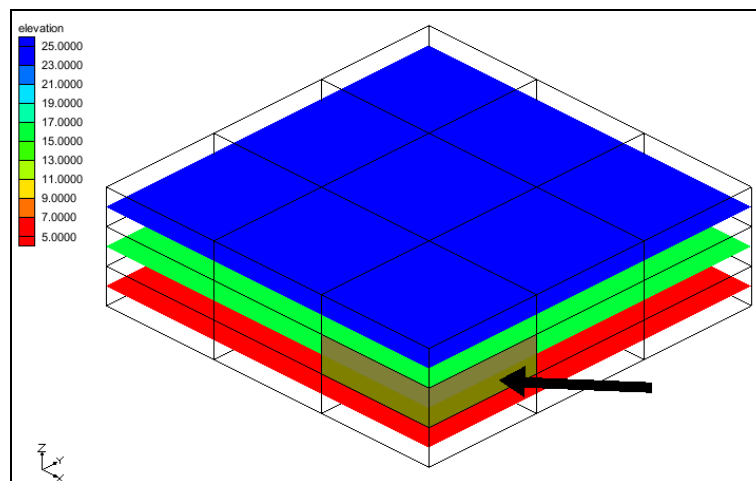

Figure 12 Elevation contours
14. Using the **Select Cells**  tool, select the cell shown in Figure 12.